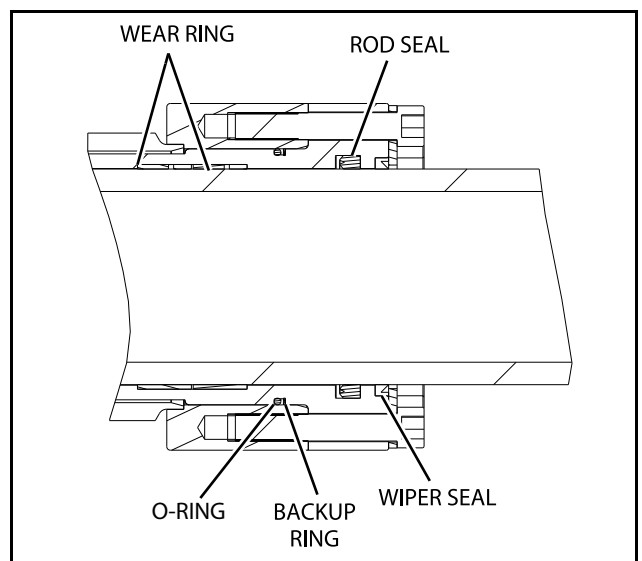
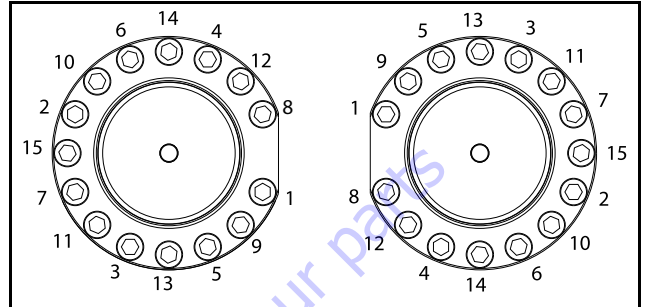

Figure 5-66. Cylinder Head Seal Installation
Figure 5-73. Capscrews Torque Sequence
9. Tighten the capscrews evenly and progressively in rotation refer Figure 5-66. and Figure 5-62. for torque values.
11. Re-torque the capscrews evenly and progressively in rotation refer Figure 5-66. and Figure 5-62. for torque values.
- Place end cap onto cylinder rod and tighten with plug. refer Figure 5-66. and Figure 5-62. for torque values.
- Apply Medium strength Threadlocking Compound to the socket head bolts and secure the cylinder head gland using the washer ring and capscrews. Torque cap-screws refer Figure 5-66. and Figure 5-62. as per the torque sequence shown in Figure 5-73..
- Insert and tighten the plug to cylinder barrel end. Torque refer Figure 5-66. and Figure 5-62. for torque values.
- Tighten the capscrews and install valve assembly to barrel. Refer Figure 5-66. and Figure 5-62. for torque values.
- Install the counterbalance valve and custom cartridge valve in the valve assembly. Refer Figure 5-66. and Figure 5-62. for torque values.